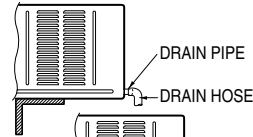

Fig. 1
2. Connect a drain hose of 9/16" inside diameter to the drain pipe as shown in Fig. 1.